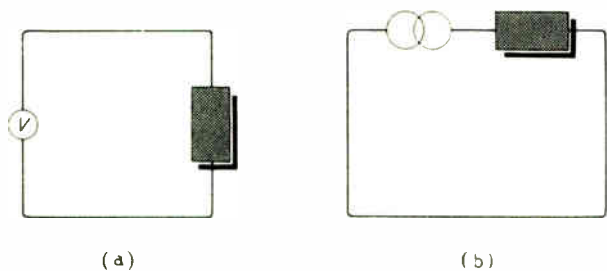

Fig. 3. Simple mesh circuit (a) and simple node circuit (b)
The five main components used in an electrical network are Resistance, Inductance, Capacitance, Current generator and Voltage generator. From equations (2) and (4), the dual of a simple mesh circuit is a node circuit (Fig. 3). These have equations: